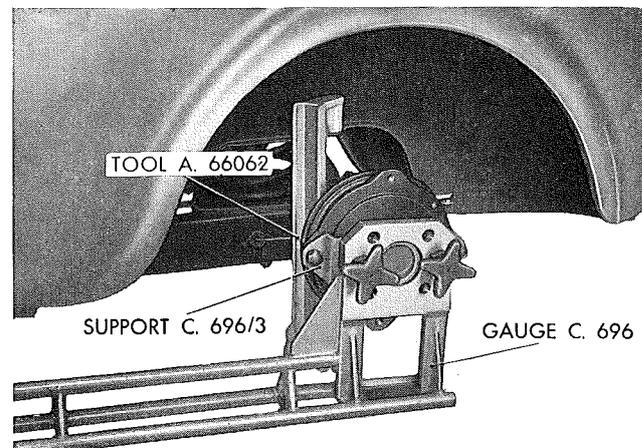

Fig. 261 - Checking left rear wheel toe-in by gauge and tools shown in the figure.
- b) Install fixtures **A. 66062** for spring compression and wheel retainment in vertical position (figure 261).
(see also figs. 261 and 263).
d) Secure support C. 696/3 to wheel drum and connect gauge C. 696 to the support, then tightening the two clamping screws (fig. 261).